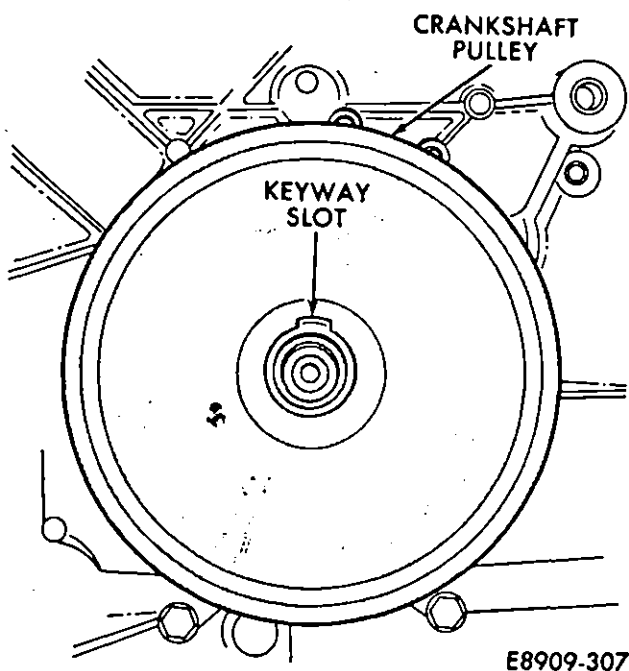

Fig. 4—Keyway Slot Position
(2) A thread lock is applied to the crankshaft pulley nut. Use a BRASS hammer and strike the nut prior to loosening. Remove the pulley nut.
(3) Check the position of the keyway slot (Fig. 4). The keyway slot must point straight up before removing the crankshaft pulley. The key could fall out of the crankshaft if the pulley is removed with the keyway facing down. If it does not point up, turn the crankshaft until it does.
(4) Pull the crankshaft pulley off the crankshaft (Fig. 4).